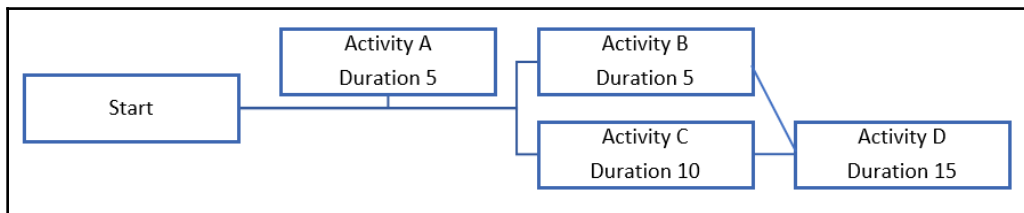

Figure 6.14
16. Based on the network diagram in *Figure 6.14*, what is the critical path?